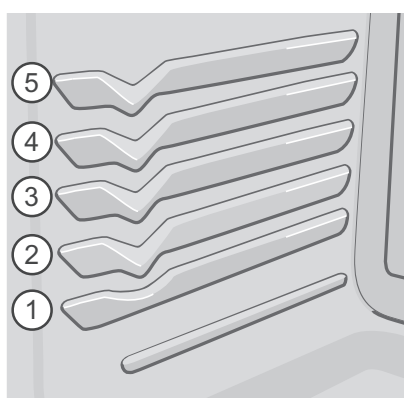
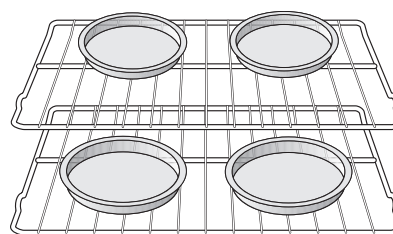

Figure 12: Oven rack positions
Figure 13: Baking on multiple levels/racks
- For best results when baking cakes or cookies using two oven racks, place racks in positions 1 and 4 (Figure 12) and place pans as shown in Figure 13. Use flat rack in position 4 and glide rack in position 1.
- When baking using two oven racks, position bakeware as shown in Figure 13. Allow at least 2 inches (5 cm) of space between bakeware for proper air circulation.